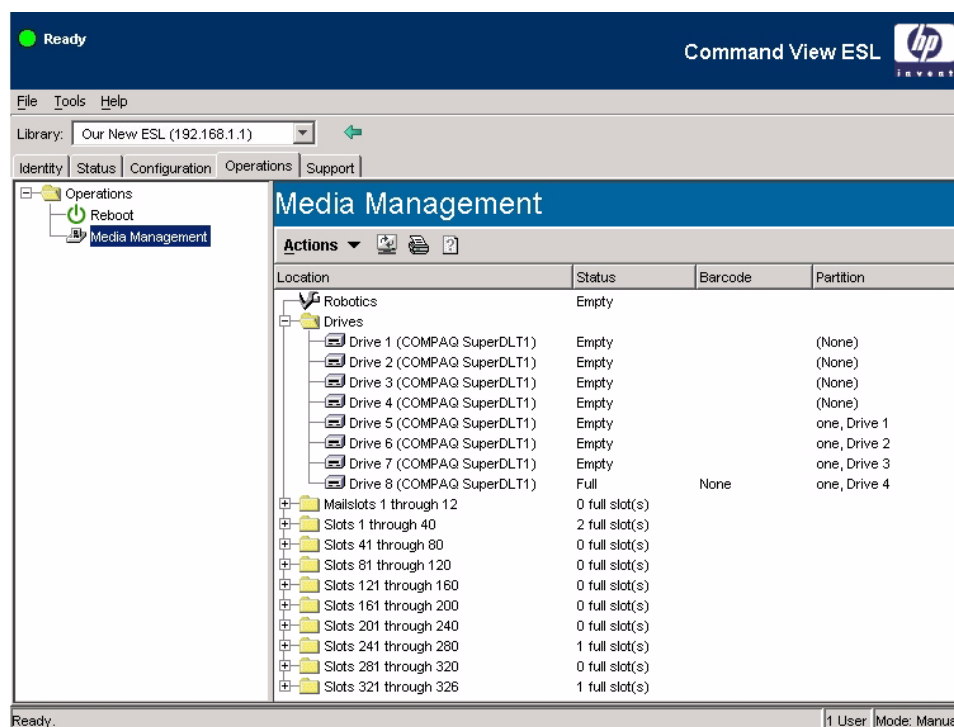

Figure 13: Media Management screen
- **Partition column**—displayed only if the library has been partitioned. The column indicates which partition the corresponding drive, slot, or mailslot has been assigned to, and its position in the partition. For example, in Figure 13, drive five is shown as being the first drive in partition one.